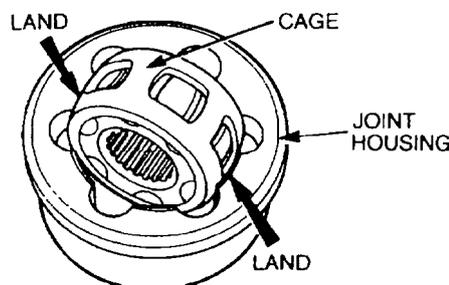

Figure 262 Removing the Constant Velocity Joint Cage
d. Swivel the cage to line up with the axis of the constant velocity joint (Figure 262), turn the cage until two opposite windows line up with two lands of the joint housing and remove the cage.
- Position the cage on the constant velocity joint (Figure 262) and line up two opposite windows with two opposite lands, then fit the cage.